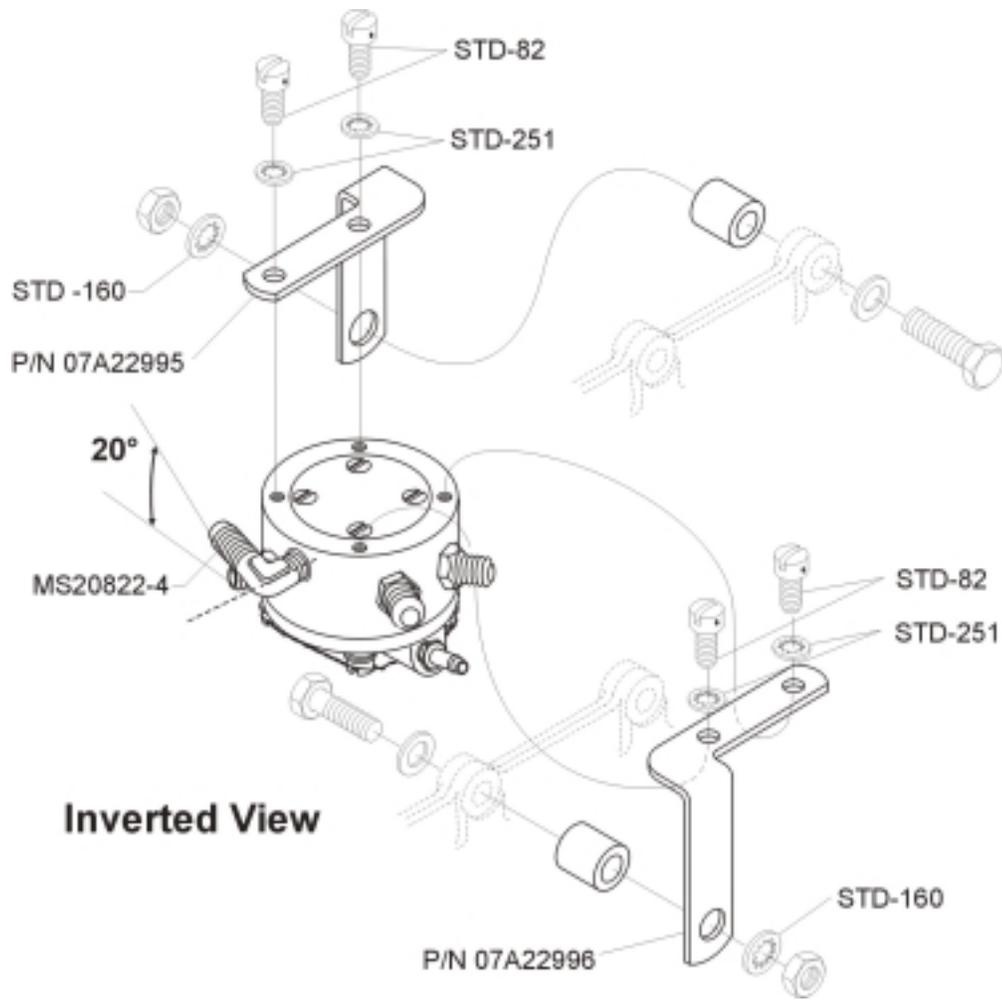
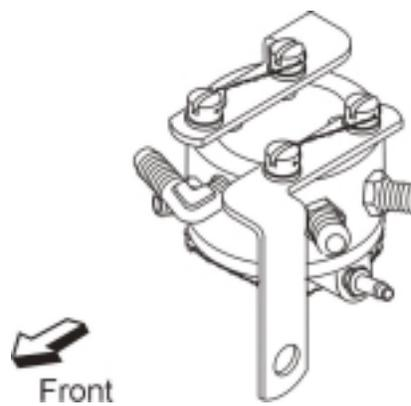

Figure 3.
Figure 4.
6. Install the new mounting brackets P/N 07A22995 and P/N 07A22996 on the flow divider assembly using the new screws and lockwashers P/N STD-82 and P/N STD-251 respectively. Torque to 49 in.-lbs. With the flow divider assembly positioned with the cap down and the 90° elbow toward the front of the engine, P/N 07A22995 should be installed on the right and P/N 07A22996 on the left. (Figure 3.) With new brackets installed, lockwire screws. (Figure 4.)
7. Install flow divider brackets on the engine using the bolts, washer, and spacers that were removed initially and new STD-160 washers. Torque to 96 in.-lbs. (Figure 3.)